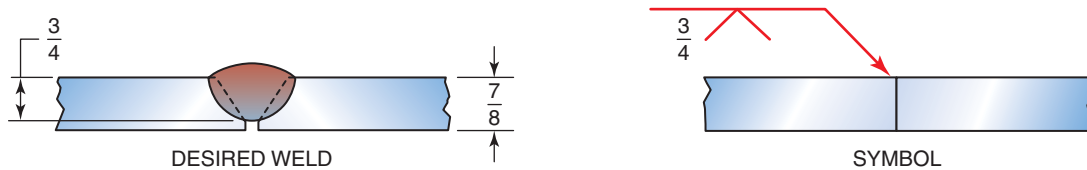

Figure 3.41 Designating the size of grooved welds with partial penetration
- groove welds that extend only part way through the parts being joined. The size as measured from the top of the surface to the bottom (not including reinforcement) is included to the left of the welding symbol, Figure 3.41.